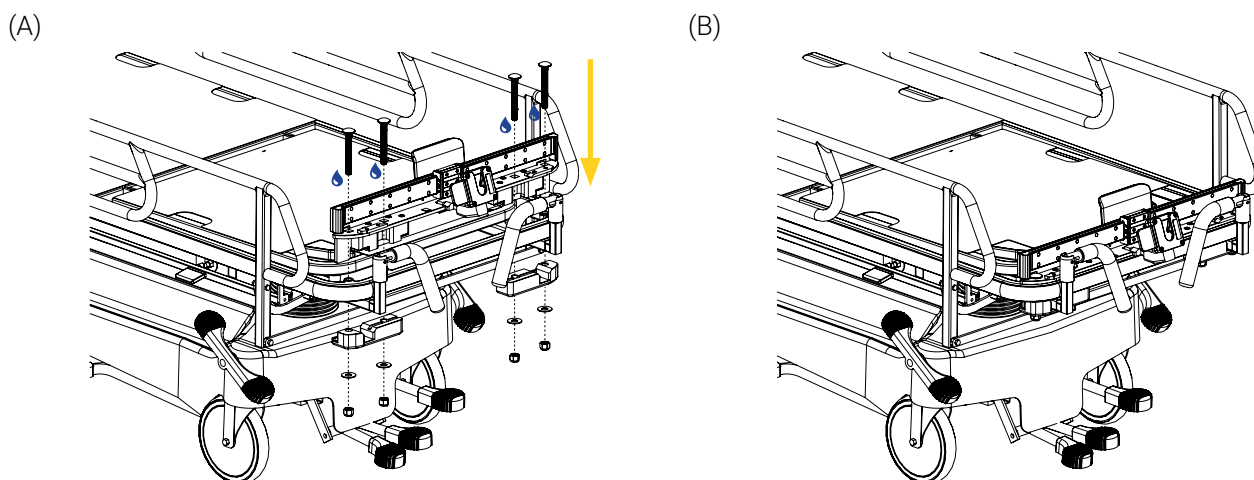

Figure 67: Installing the rail
2. Place the rail on top of stretcher frame and the two (2) clamp blocks under the stretcher frame, then partially tighten four (4) 18-8 SS ½ in. - 13 thread size, 4 in. L square-neck bolts coated in medium strength thread-lock adhesive, four (4) ½ in. ID X 1-1/4 in. OD washers and four (4X) ½ in. - 13 thread size lock nuts by hand in a cross-pattern before tightening using a ½ in. wrench (Figure 67).